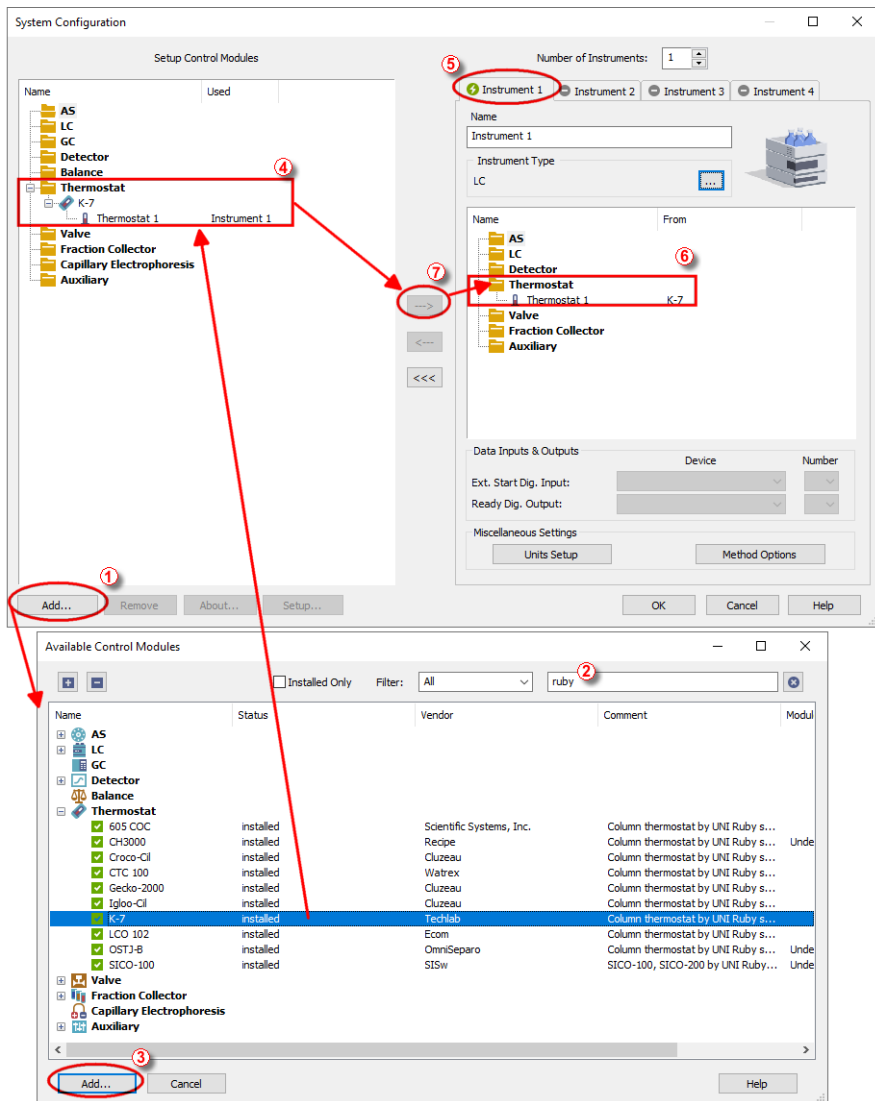

Fig 3: How to Add Techlab K-7
- Press the **Add** button (① on **Fig 3** on pg 4.) to invoke the **Available Control Modules** dialog.
- You can specify the search filter (②) to simplify the finding of the driver.
- Select the correct item and press the **Add** (③ on **Fig 3** on pg 4.) button. Each device with already created UNI profile should have its own item named accordingly in the **Available Control Modules** dialog.